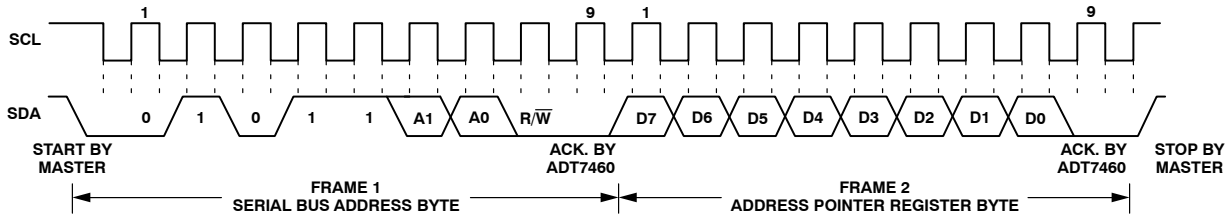
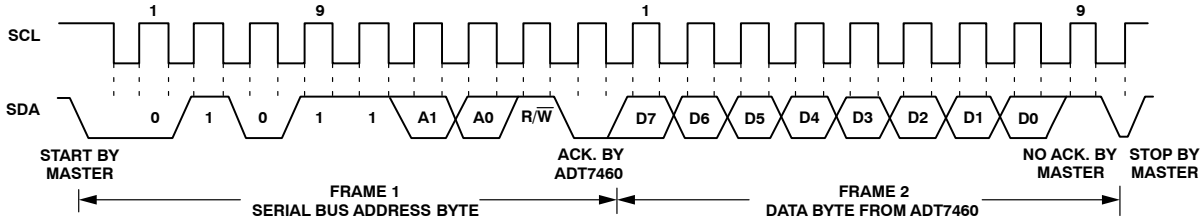

Figure 18. Writing to the Address Pointer Register Only
Figure 19. Reading Data from a Previously Selected Register
1. If the ADT7460's address pointer register value is unknown or not the desired value, it is first necessary to set it to the correct value before data can be read from the desired data register. This is done by performing a write to the ADT7460 as before, but only the data byte containing the register address is sent because data is not to be written to the register. This is shown in Figure 18. A read operation is then performed, consisting of the serial bus address, R/W bit set to 1, followed by the data byte read from the data register. This is shown in Figure 19.
2. If the address pointer register is known to be already at the desired address, data can be read from the corresponding data register without first writing to the address pointer register, so Figure 18 can be omitted.
In Figure 17 and Figure 19, the serial bus address is shown as the default value 01011(A1)(A0), where A1 and A0 are set by the address select mode function previously defined.